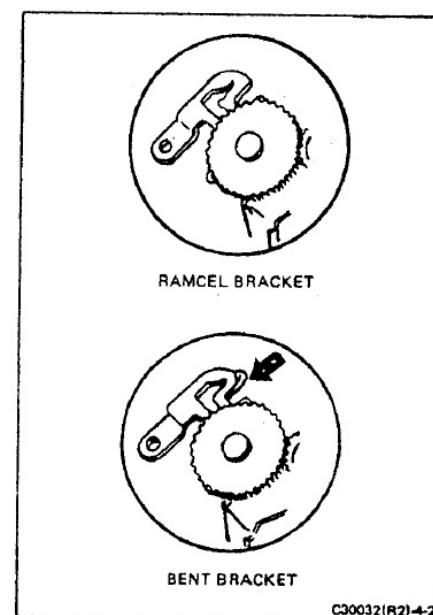

FIGURE 4-2 COMPARISON OF SPREAD ROLL BRACKETS
- Two vendors produce the spread system assembly bracket (see Figure 4-2). One vendor, Ramcel, makes the bracket with a retainer area which is not bent. The other vendor makes the bracket with a bent retainer area. Most of the loose front cover problems occur with the bent retainer area. Therefore, a simple solution is to replace the front cover or a spread system subassembly with one containing a Ramcel spread roller bracket. However, before doing this, try the repair procedure called out in paragraph c, below. (Do not scrap the original front cover since it is still usable on other cameras.)